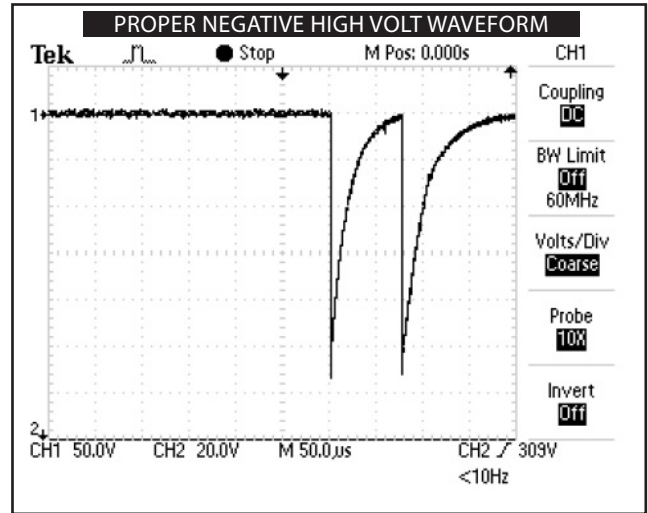

FIGURE 1
1. Waveforms on scope the same as **Figures 1 and 2** and Amps do not exceed 1.5.